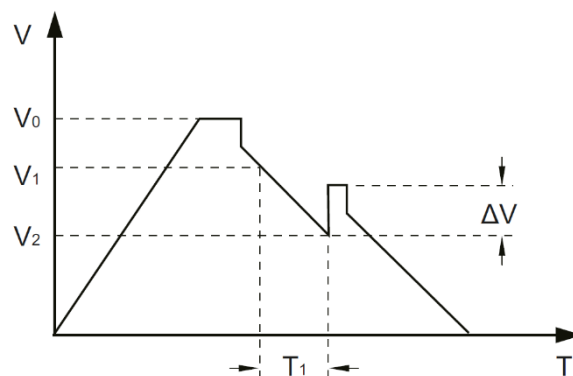

Figure 2 | Charge and Discharge procedure
1. Charge and Discharge procedure (Figure 2):